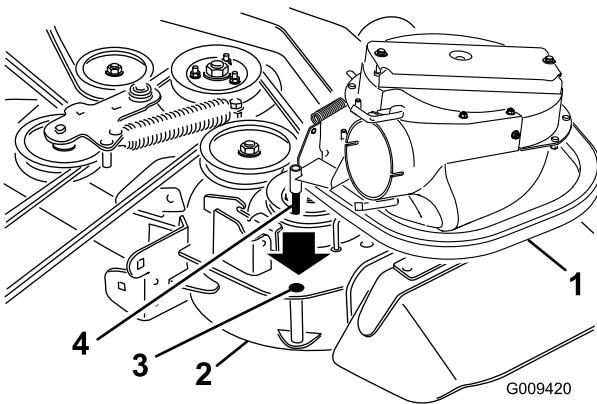
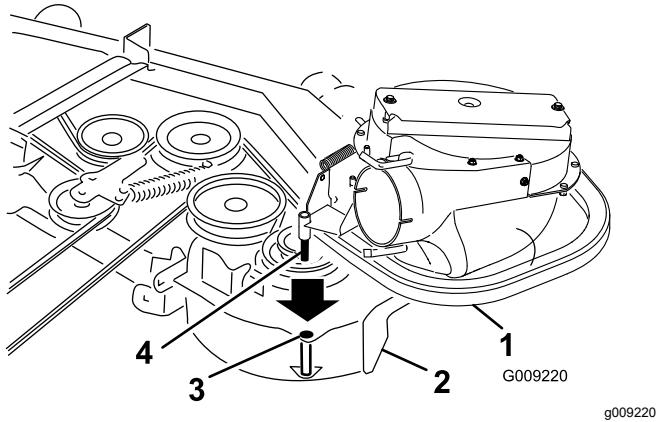

Figure 17
Figure 18
- Slide the blower-assembly peg into the pivot hole (Figure 17 or Figure 18).